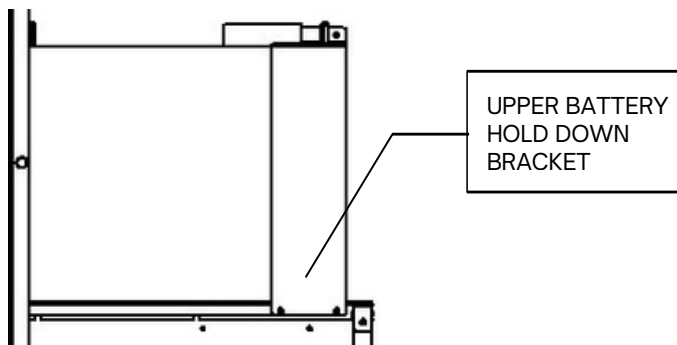

Figure 18
- Remove the upper battery hold down bracket (see figure 18)